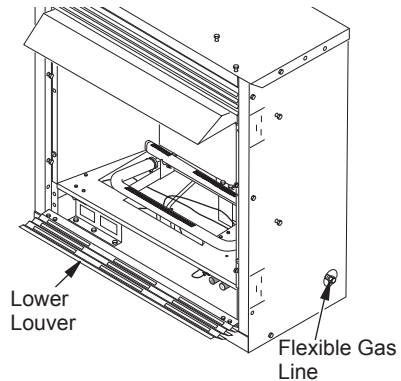

Figure 22 - Flexible Gas Line Location (Remote-Ready Unit Shown)
1. Open lower louver (see Figure 22).
NOTICE: Most building codes do not permit concealed gas connections. A flexible gas line is provided to allow accessibility from the fireplace (see Figure 22). The flexible gas supply line connection to the equipment shutoff valve should be accessible.